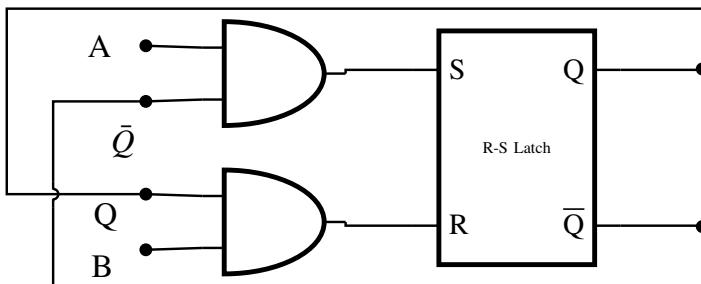

Fig. 5.34
39. The two inputs A and B are connected to an R-S latch via two AND gates as shown in Fig. 5.34. If $A = 1$ and $B = 0$, the output $Q\bar{Q}$ is